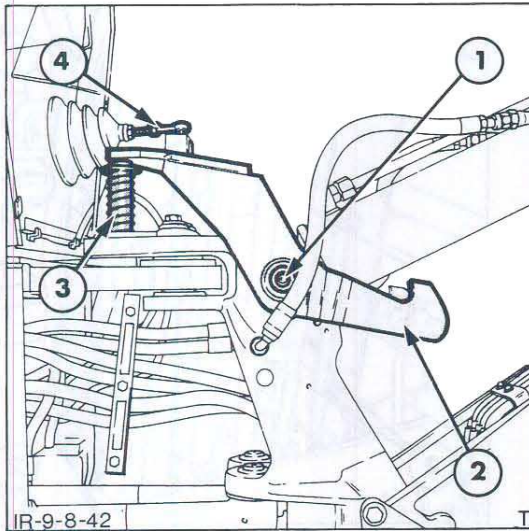

Figure 42
4. 555C and 655C Centre Pivot Units. Disassemble the boom transport lock mechanism as follows with reference to Figure 42.
c. Support the lift cylinder using a suitable piece of wood positioned between the boom and lift cylinder. Remove the snap ring and washer from the cylinder retaining pin and knock the pin from the cylinder. Lift the boom lock hook from the unit. Refer to Figure 42.